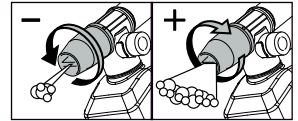

Fig. C-2
4. Turn the knob to adjust the amount of foam (Fig. C-2)